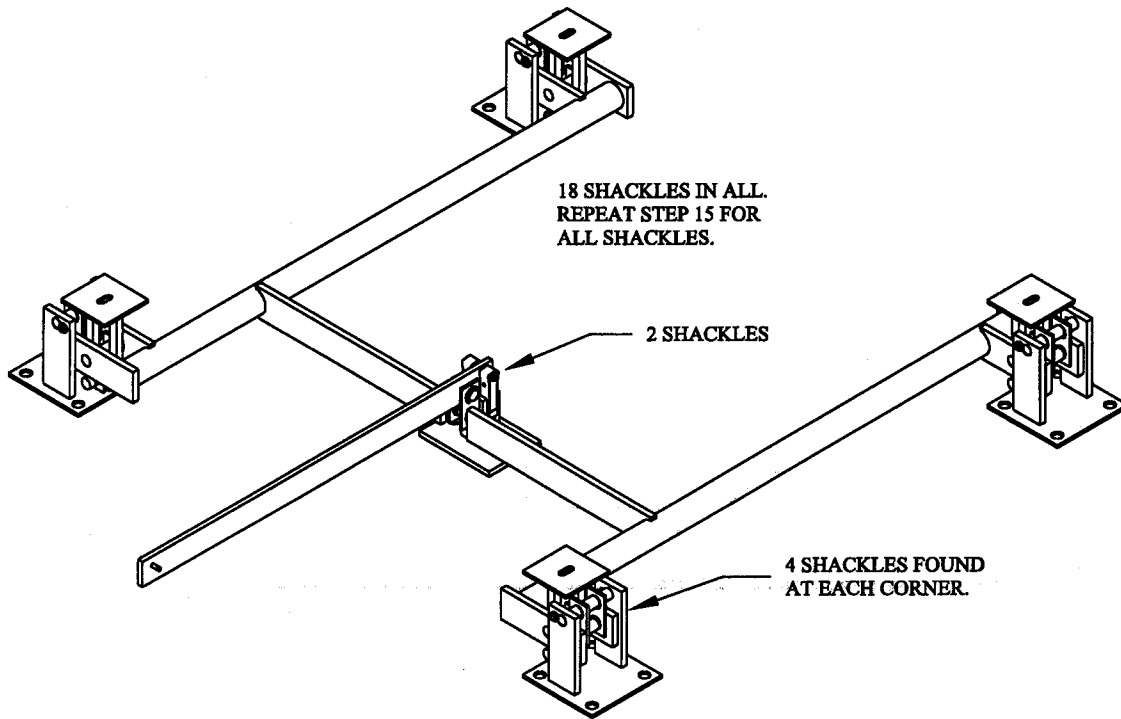

FIG. 16
STEP 16. Repeat step 15 until all shackles are done. There are four shackles found at each corner and two shackles in the middle. All in all, there are 18 shackles. See Fig. 16.